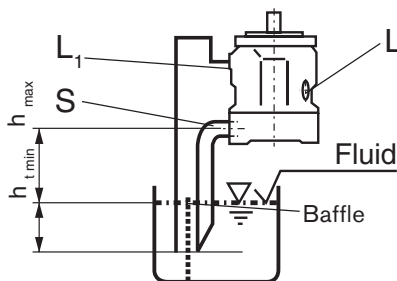

Fig. 2
b) If the min. fluid level is below the pump mounting surface: pipe port „L“ and „S“ acc. to fig. 2. Conditions acc. to item 1.2.1, close port „L“
Before installation fill pump housing, keeping it in a horizontal position. For mounting above the tank see fig. 2.